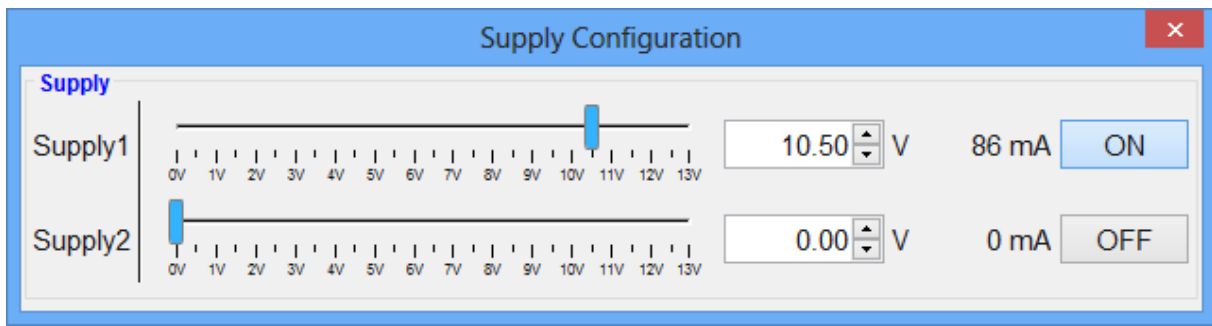

Figure 8 Supply dialog with the first channel enabled.
**G) Configure Supply (option SUPPLY only):** If available with the currently connected device, this button will open the supply dialog in which the output voltage on the two supply channels on the back panel can be configured (as shown in Figure 8). The supplies can be separately set, enabled/disabled and the current is measured continuously while this dialog is open.